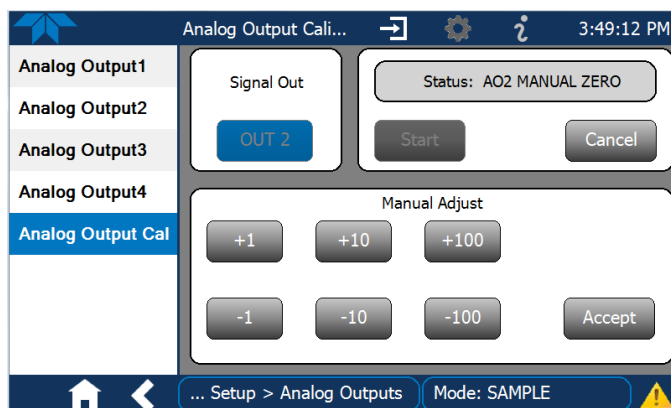
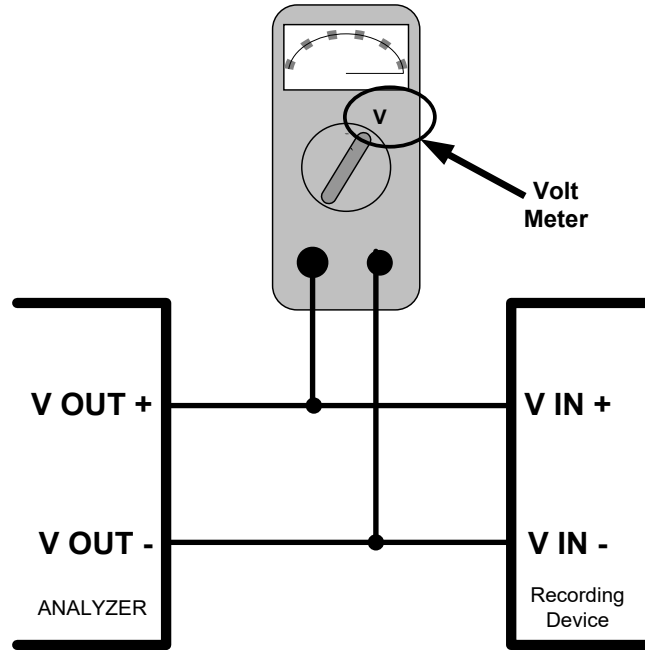

Figure 2-52. Analog Outputs Manual Calibration Screen (AOUT2 Example)
Figure 2-53. Setup for Checking / Calibrating DCV Analog Output Signal Levels
- MANUAL for individual calibration (Figure 2-52) of analog outputs where manual adjustments can be made (the only calibration type allowed when Current is selected for the Range). See Sections 2.5.8.1 and 2.5.8.2 .
It is possible to manually calibrate the voltages by using a voltmeter connected across the output terminals (Figure 2-53) and changing the output signal level in the Manual Adjust field of the Analog Outputs Calibration screen (Figure 2-52). Refer to Table 2-14 for voltage tolerances.